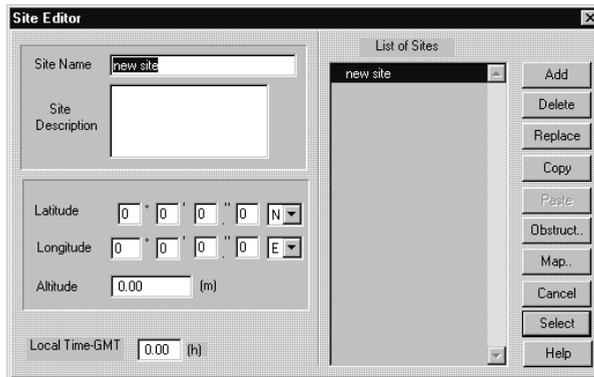

Figure A.6. Site Editor Dialog Box
1. In the **Site Editor** dialog box, Figure A.6, enter a name for the site in the **Site Name** field.